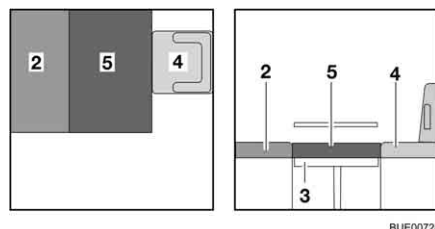

Fig. 76 After conversion
- Place the additional cushion (Fig. 76,5) on the table.
- If required, push the driver's seat (Fig. 76,4) back to the rear.